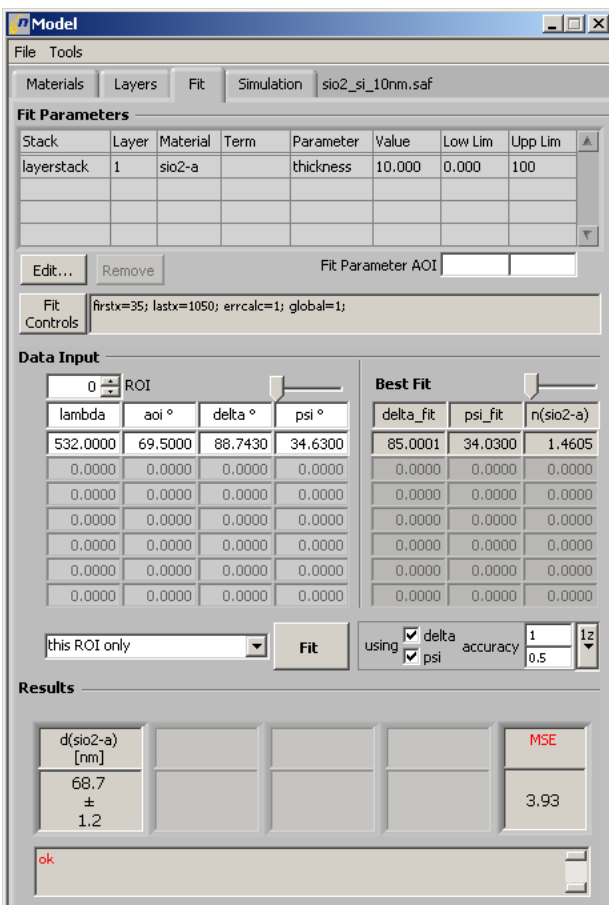

Fig. 4.3-4
- Press the button “fit” in the middle of the window and the results will appear in the lower spreadsheet “fit_results” according to Fig. 4.3-4